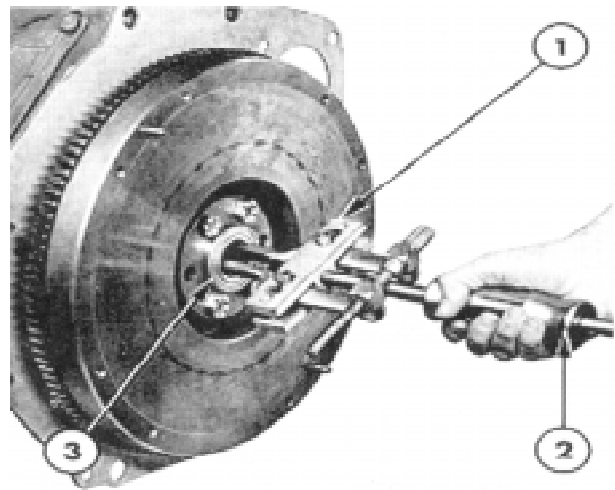

Figure 34
1. Remove the bearing from the end of the crankshaft with a slide hammer EF-0600 and Internal/ External attachment EF-0601 Figure 34.